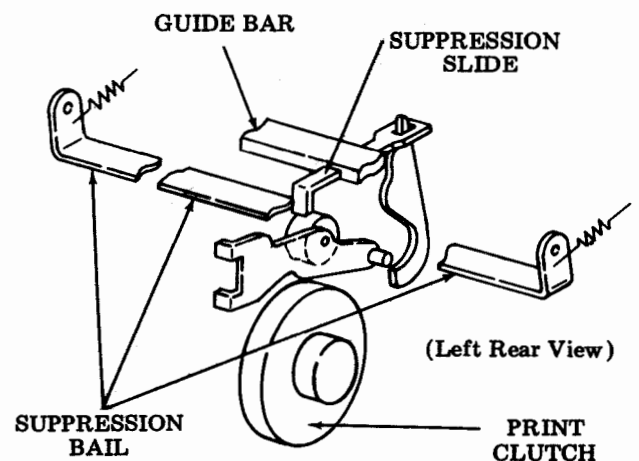

Figure 5 - Suppression Slide and Bail
- (1) View the typing unit from the back over the trip shaft mechanism, and check to insure that the suppression slide is not hung-up over the suppression bail. The correct position is indicated in Figure 5. If corrective action is required, push down on suppression bail and move the suppression slide towards the front of the unit. Hold slide in and release the bail.